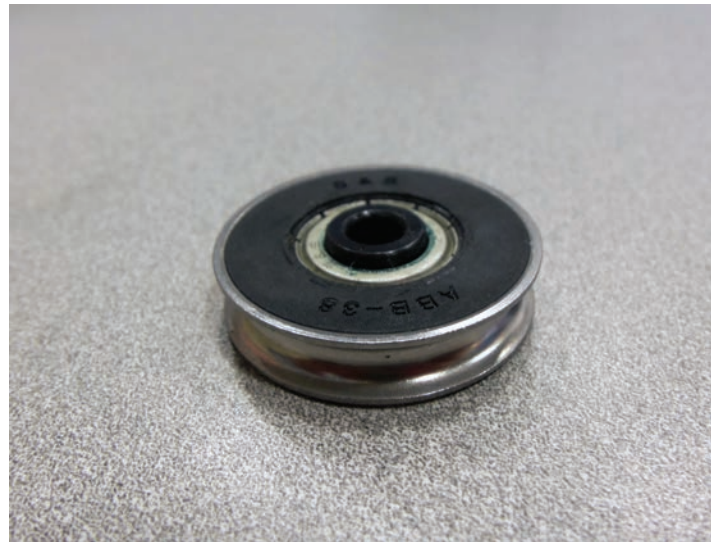

Figure 2
**Step 1:** Remove the old metal-surface wheels (**Figure 2**) from the machine. Set the wheels and bolts aside; they will not be reused.